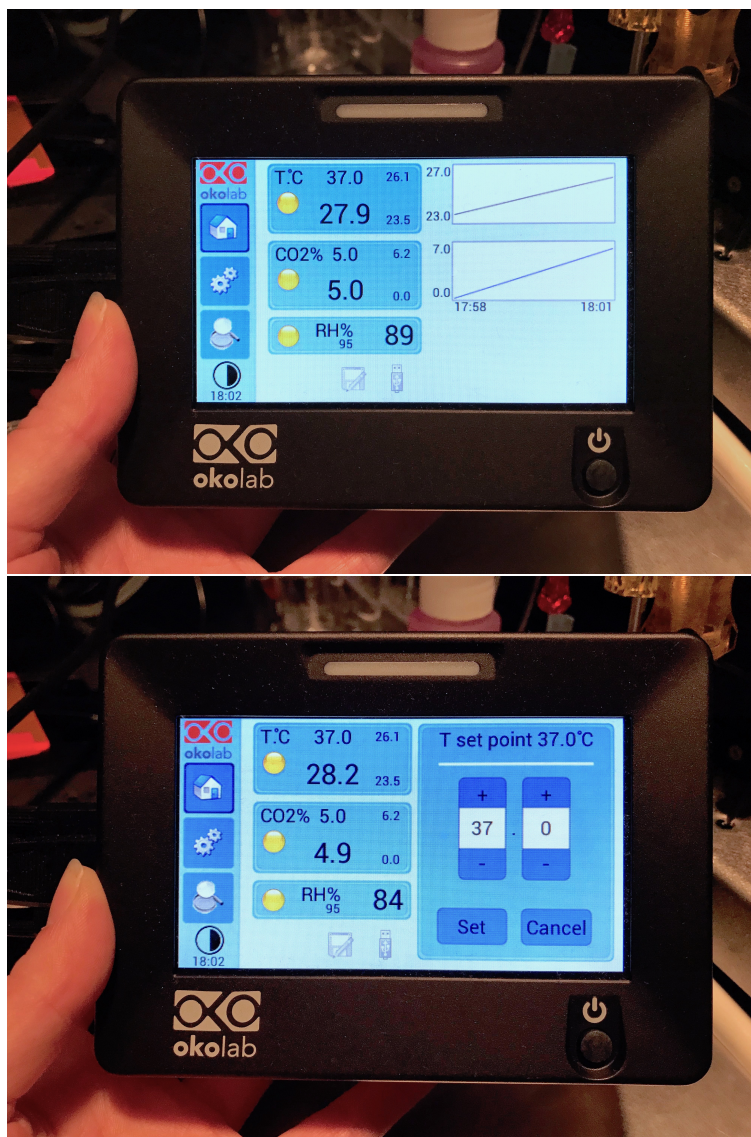
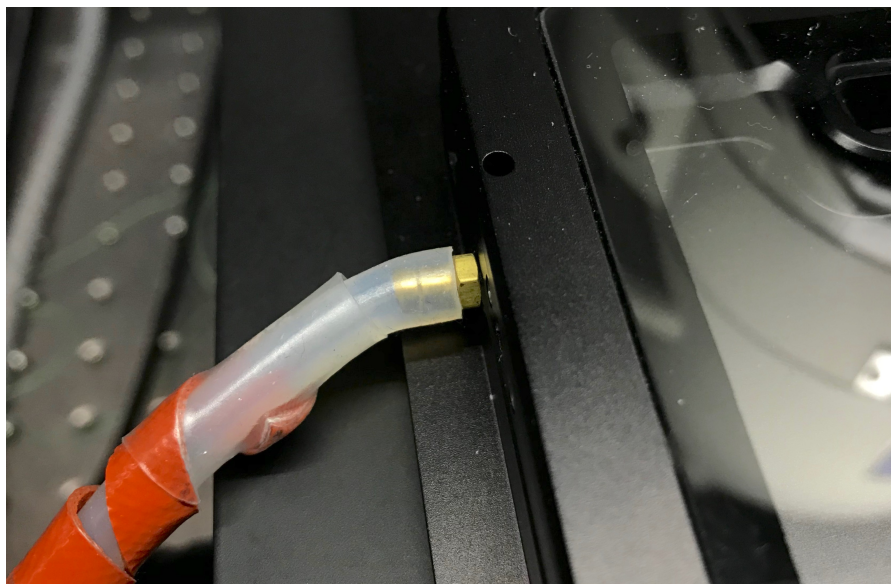

Figure 18: OKO Lab Touch Screen
Figure 19: Brass fitting with heated tubing attached
3. Set the temperature and humidity using the Home screen on the touch panel. (Figure 18)
4. Check the humidity bottle for an appropriate level of distilled water. ONLY distilled water may be used. Please ask the BIDC for more, do not refill. **NOTE:** *It is recommended to keep the Relative Humidity (RH) between 80-95%.*
7. Connect heated tubing to the brass fitting on the stage chamber. Be sure when moving the stage that this tube does not get caught. (Figure 19)